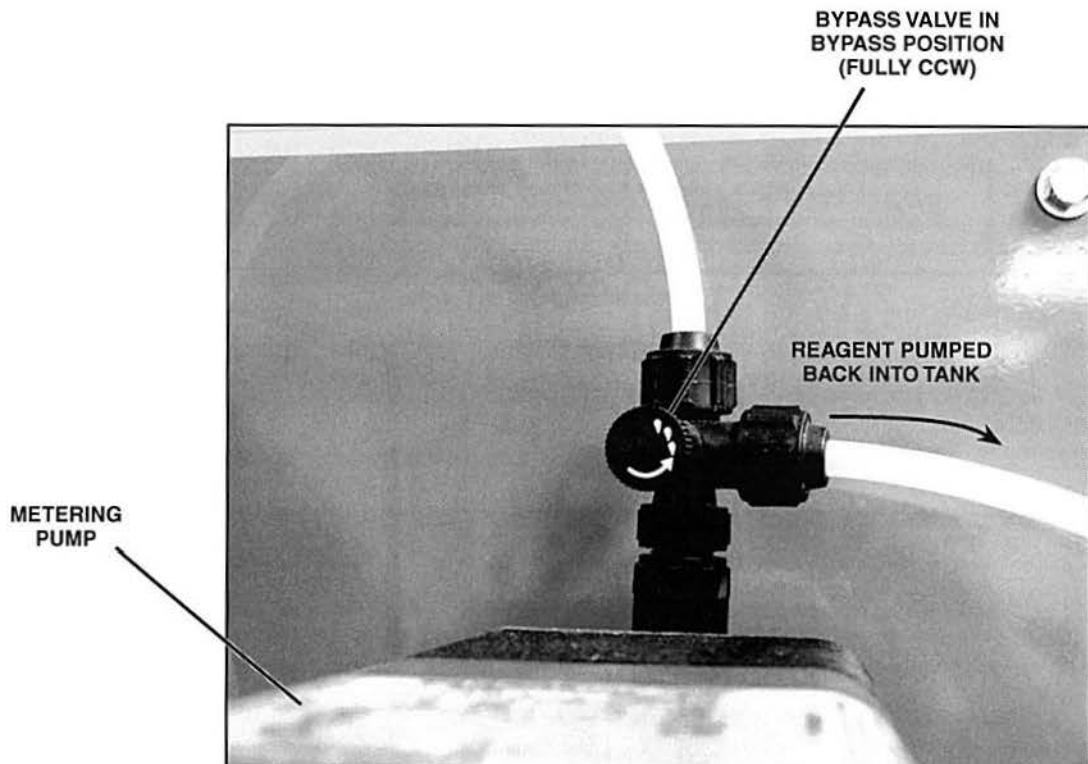

Figure 51. Bypass Valve Set to Bypass Position
- A. Locate the bypass valve for the electronic metering pump and set it to the bypass position (fully CCW), as shown in figure 51.